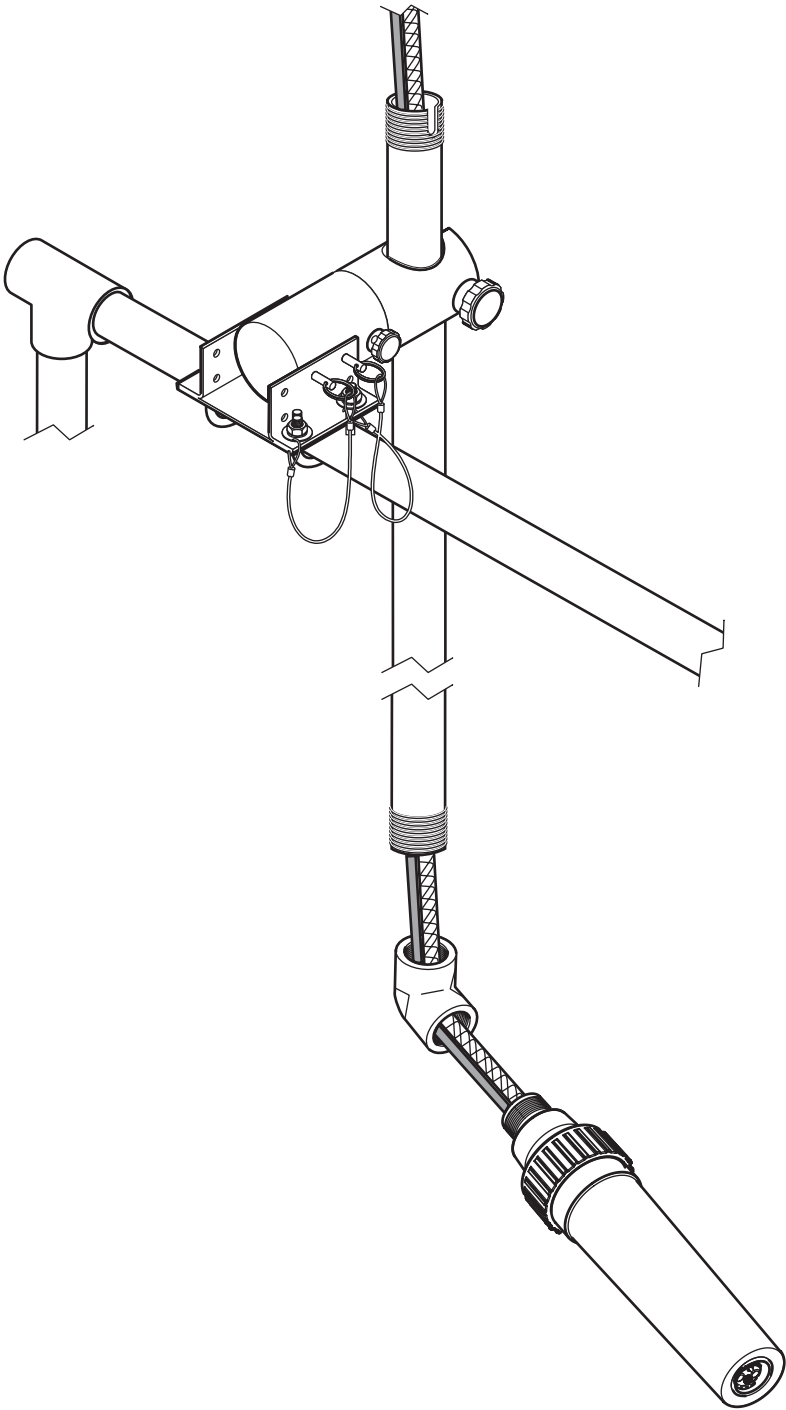

Figure 8 Installing the cleaning unit
- Installing the sensor with a cleaning unit—Guide the sensor cable and the air tubing through the elbow and the immersed pipe. Bolt all pieces together (Figure 8 on page 6).